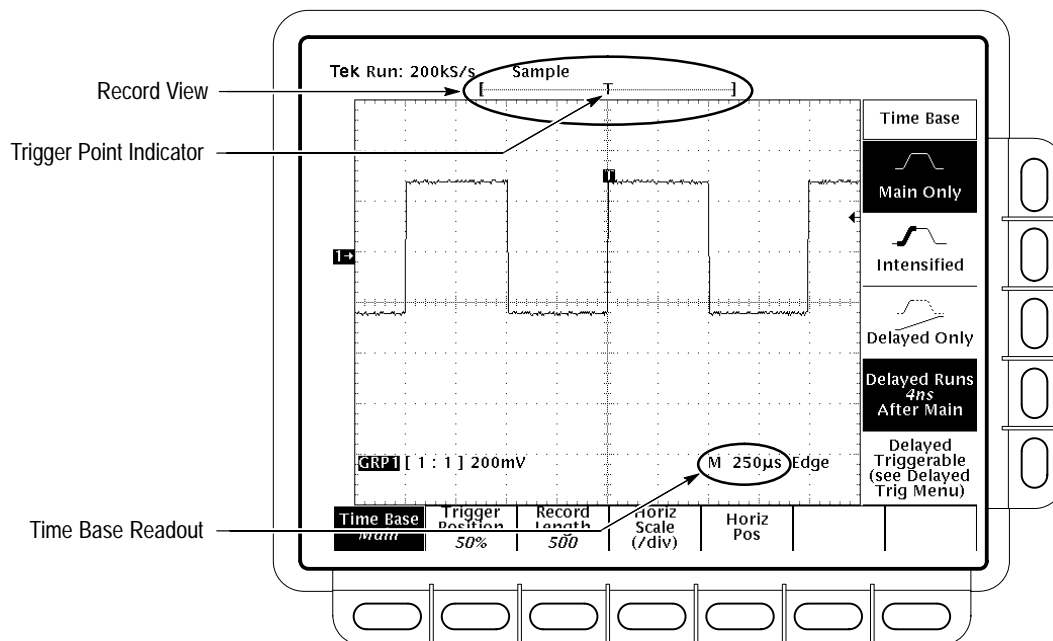

Figure 3-2: Record View and Time Base Readout
To quickly determine the horizontal scale, check the *Time Base Readout* at the lower right corner of the display. It shows the time/division settings and the time base — main (M), delayed (D), or both (M and D). (See Figure 3-2).
To quickly determine the size and location of the waveform record, check the *Record View* at the top of the display. The square bracketed area of this readout represents the display. The Record View also shows the location of the trigger point relative to the display. (See Figure 3-2.) (It also shows cursor location if cursors are turned on.)